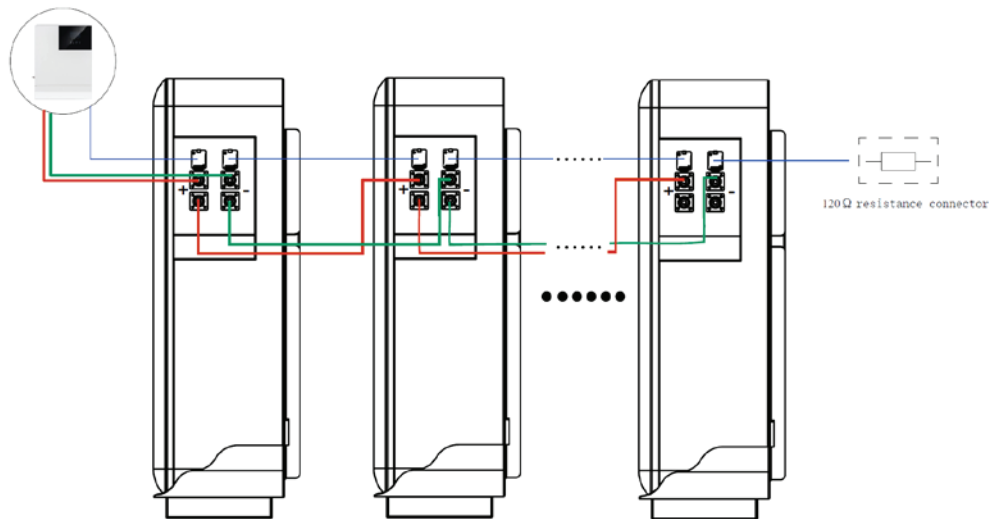

Figure 12. Connect the internal cables
- a. When the inverter power $\leq 5\text{kW}$, multiple batteries are used in parallel, connect the power cable base on the Figure 12 wiring method.